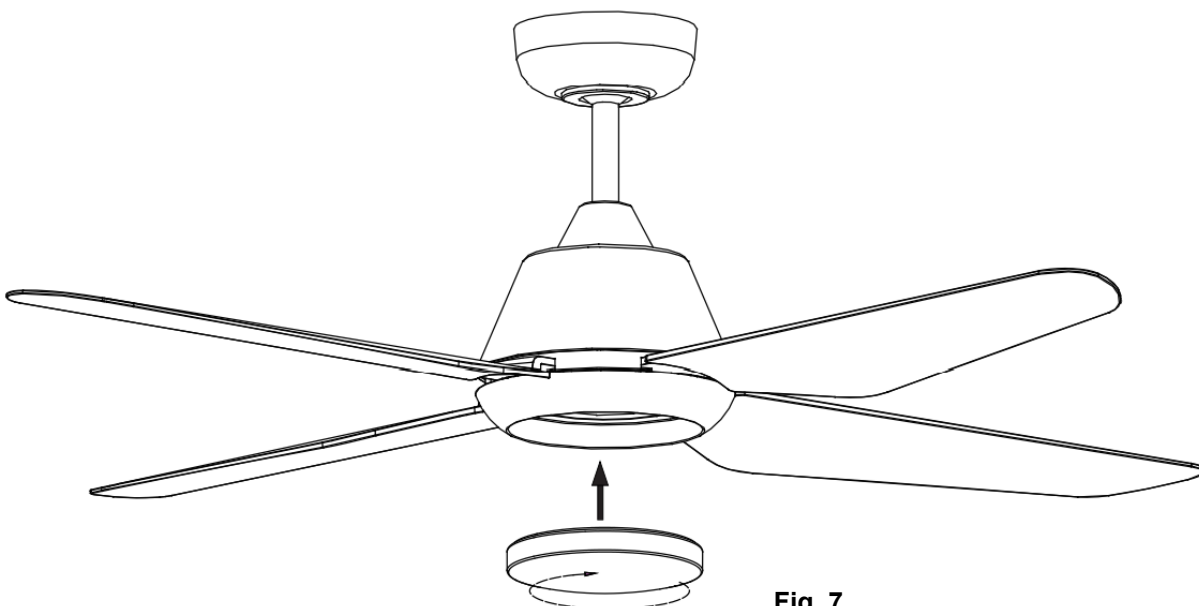

Fig. 7
INSTALLATION OF LAMP (Fig. 7)
- Install the lamp on the fan assembly then secure it by turning clockwise. (Fig. 7)
PREPARE AND COMPLETE THE ELECTRICAL WIRING --- WIRING DIAGRAM (FIG. 7)